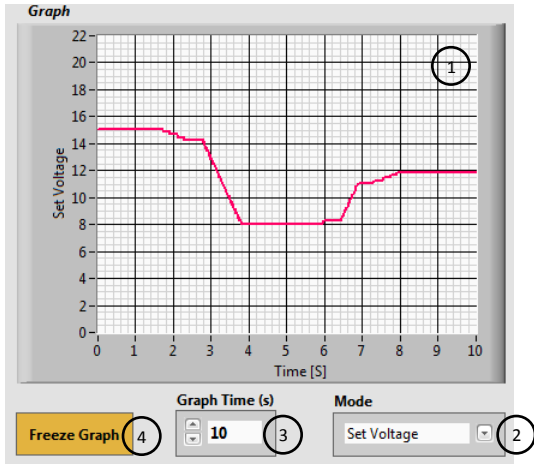
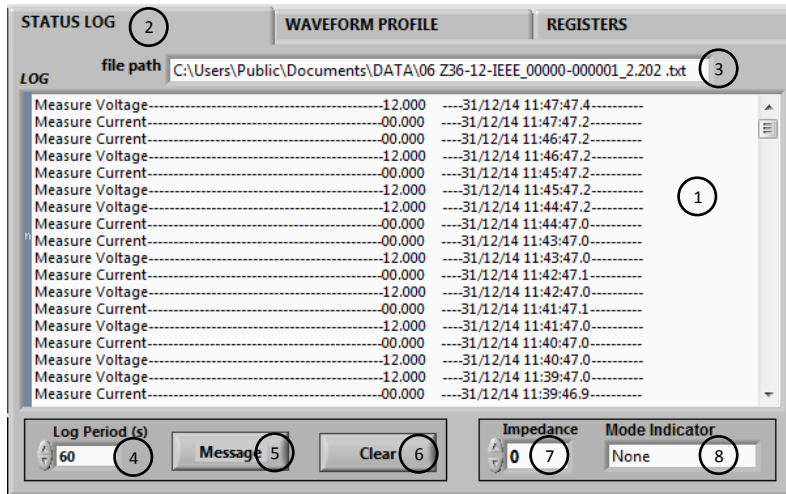

Figure 8
Figure 9 Logger
7. The Graph (1) shows selected voltage or current parameters. The parameter is chosen by using the Mode selector (2). The time period of the graph is set by Graph Time (3) selector. To Freeze Graph press button (4) and read present data. The time accuracy for the graph is 2%. Refer to Figure 8
1. This feature allows logging faults, measured voltage and current data (1) which are defined by time period (“Log Period”) (4). Select STATUS LOG tab (2) to activate the function. Refer to Figure 9
2. The data stored in .txt file. See path (3). The file name includes PSU address and model properties.
3. Set the Message button to the “All Events” (5) state, to allow logging of all setting commands in addition to the messages described above.
4. To clear file data use “Clear” button (6).
5. The application allows logging for more than one unit when the corresponding address is enabled (green button)(up to 31 Z+ supplies). Refer to Figure 8. For STATUS LOG mode only.